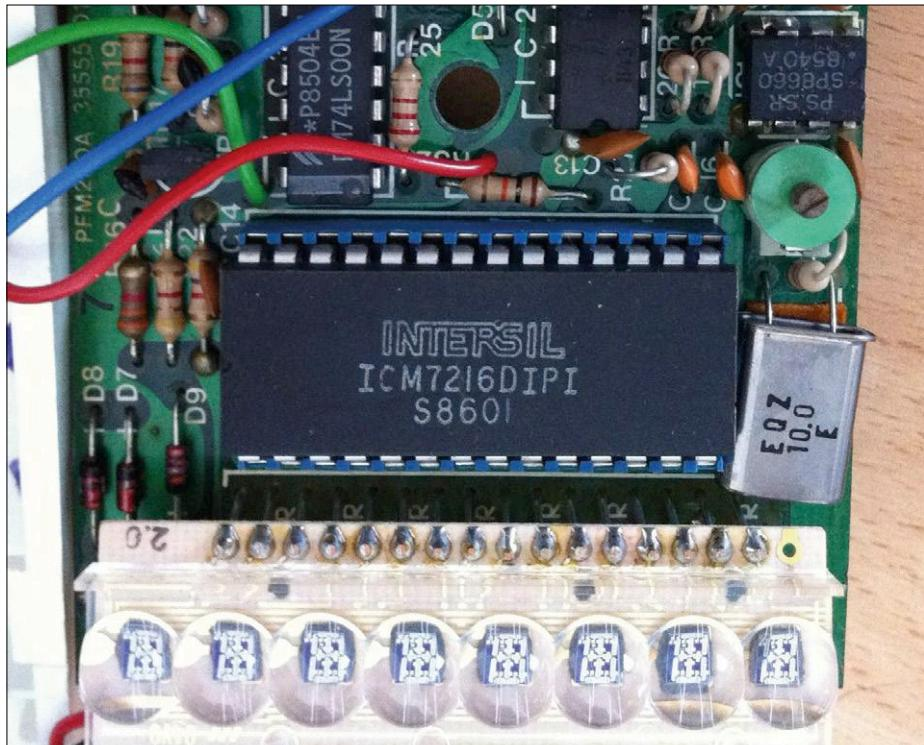

Figure 3. Sinclair PFM200 Frequency Counter board. Source: Eric de Paauw / CircuitsOnline.net.
The ICM7216 has been used in some commercial designs, notably the Sinclair (UK) PFM200 frequency counter. This was a miniature frequency counter using the same displays and cases as Sinclair's line of pocket calculators. **Figure 3** shows a PFM200 board. The high (for the time) component density was typical of Sinclair. The small 8-pin SP8660 IC is the prescaler *par excellence* for the 100-MHz range. The slider switch near the bottom